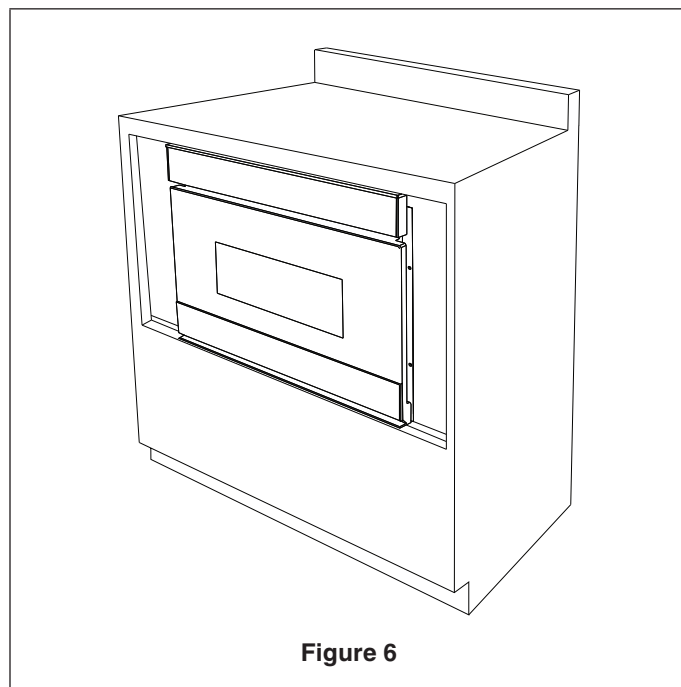

Figure 6
9. Using the 4 holes on each bracket as a template, pre-drill the cabinet using a 1/16" (1.6 mm) bit. Secure the mounting brackets to cabinet with the 8 bracket screws provided. See Figure 6.
6. Close drawer to complete oven installation. See Figure 6.